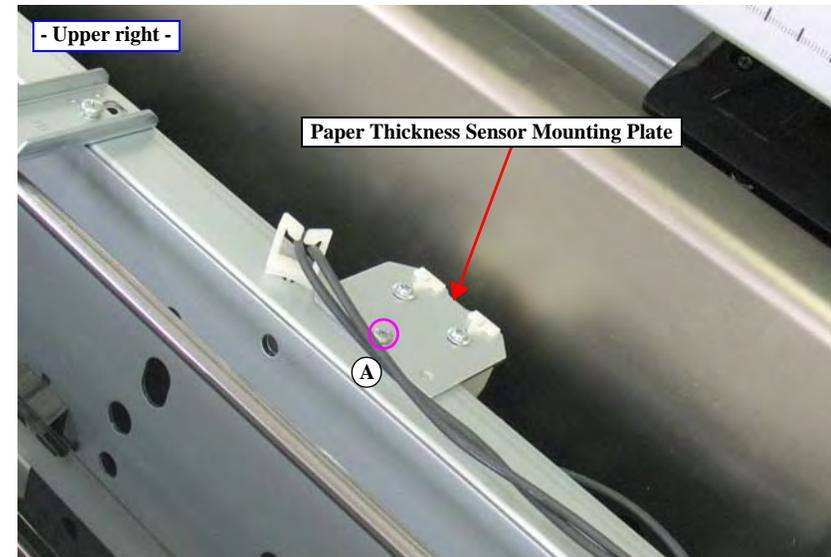

Figure 4-81. Removing the Paper Thickness Sensor Mounting Plate
**NOTE:** There is no Maintenance Tank (L) mounted for the Epson Stylus Pro 7700/7710/7900/7910/WT7900/WT7910.
9. Remove the screw that secures the Paper Thickness Sensor Mounting Plate, and remove the Paper Thickness Sensor Mounting Plate. See Figure 4-81.
*NOTE: There is no Maintenance Tank (L) mounted for the Epson Stylus Pro 7700/7710/7900/7910/WT7900/WT7910.*
6. Remove the two screws that secure the Driven Roller Release Motor, and remove the Driven Roller Release Motor. *See Figure 4-81.*